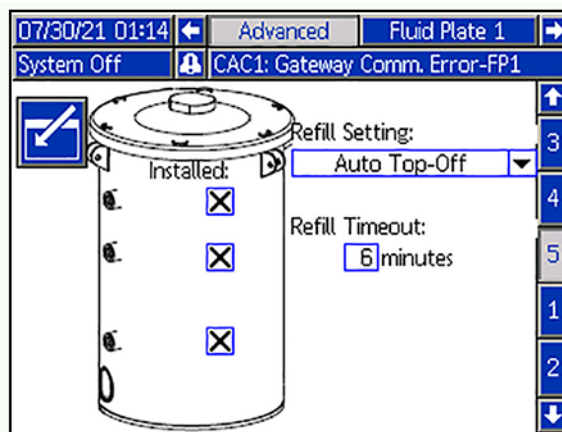

FIG. 34
3. Select a valid "Refill Setting" (not disable) then enter a non-zero "Refill Timeout" minute option (1-99 minutes as indicated below. See FIG. 34).